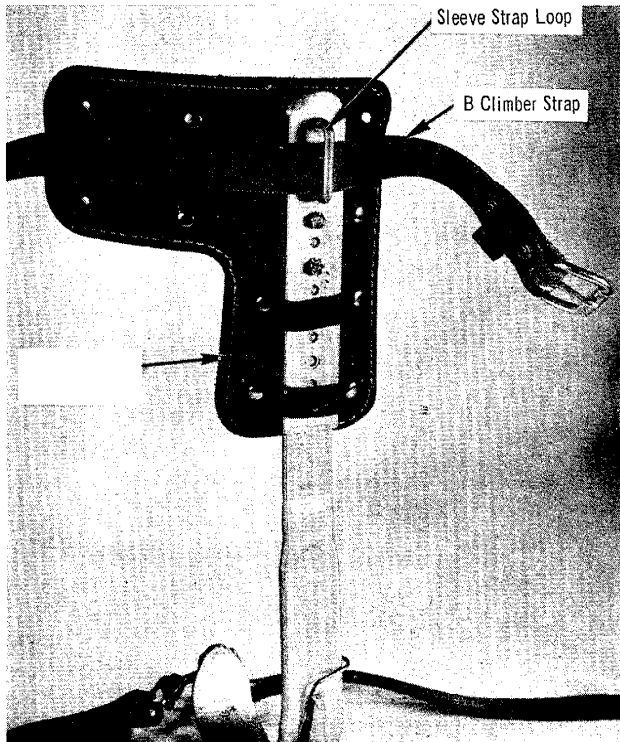

Fig. 6 — B Climber Pad (Right) Installed
2.06 The 22- or 26-inch B Climber Strap, Fig. 6, is used to hold the pad on the leg iron and to fasten both to a craftsman's leg when the climber is worn.
Next, place a B Climber Strap and pad on sleeve as shown in Fig. 6. Place the strap so the tongue will point toward back of leg when buckled. Place sleeve on climber, step on stirrup and adjust sleeve to position that is most comfortable. Place one of the set screws to hold the sleeve in